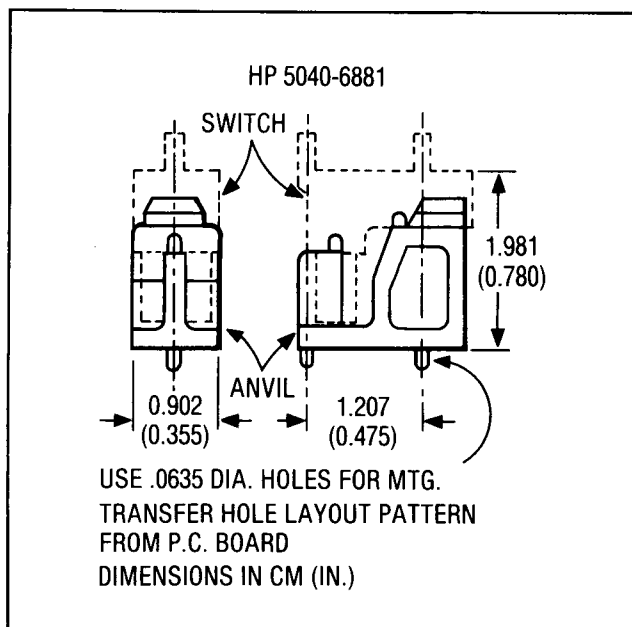

Figure 8-2. Pushbutton Switch Support Anvil
4. For reliable operation, the switch must be mounted tightly against the printed circuit board. To facilitate the heat staking operation, specially molded support anvils (HP 5040-6881) can be ordered. See Figure 8-2.